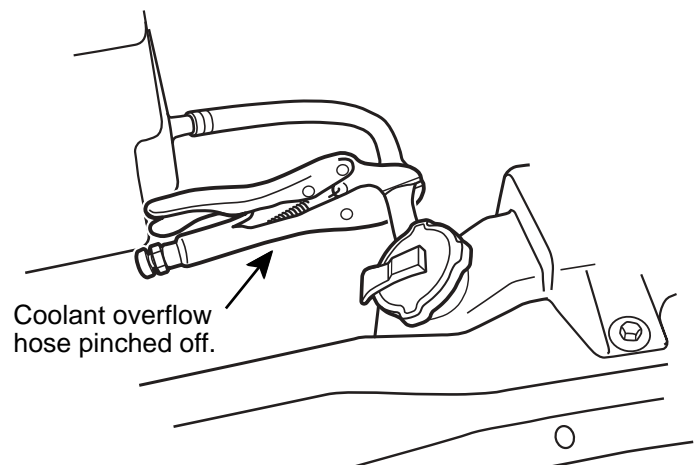

Figure 9
6. Pinch off the coolant overflow hose and any other hoses connected to the coolant reservoir. See Figure 9.